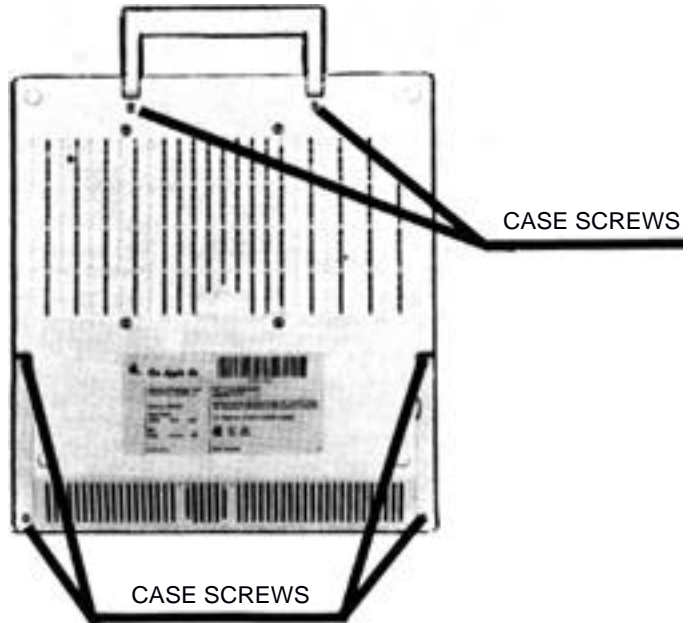

FIGURE 2.2
- I. Remove the six screws identified in Figure 2.2 with a small/medium size Phillips screwdriver. These are the screws at the outside edges of the case. Do not remove the four inside screws; these hold the disk drive in place.